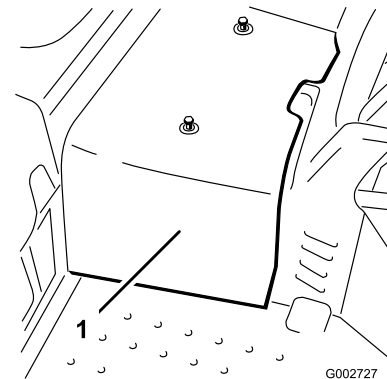

Figure 39
2. Remove the 2 screws securing the center shroud to the machine and remove the shroud (Figure 39).